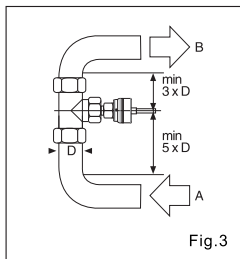

Fig.3
- To avoid damage, minimum distance to curves, valves and crosssections should be considered(Fig.3):
- Entrance (A)
- Exit (B)